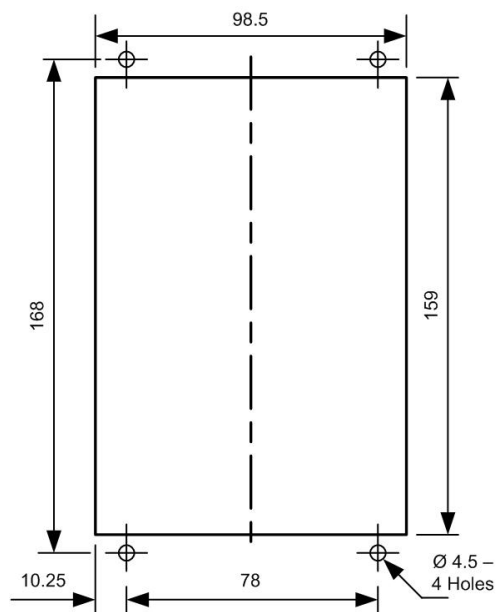

Figure 1-2 Panel cut-out
1. Create a slot of dimensions as shown in Figure 1-2 to house the relay in the protection panel.